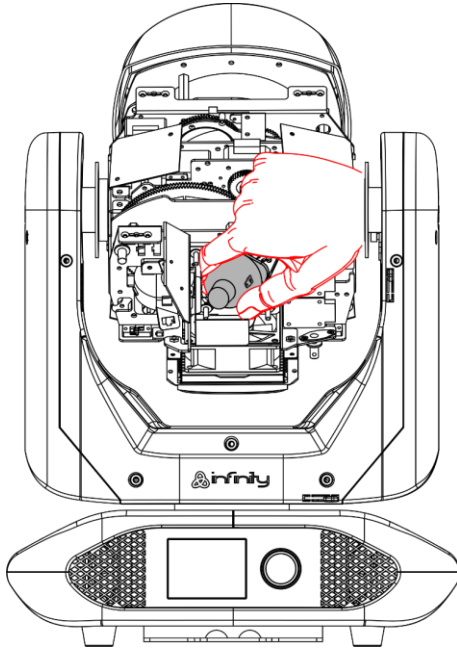
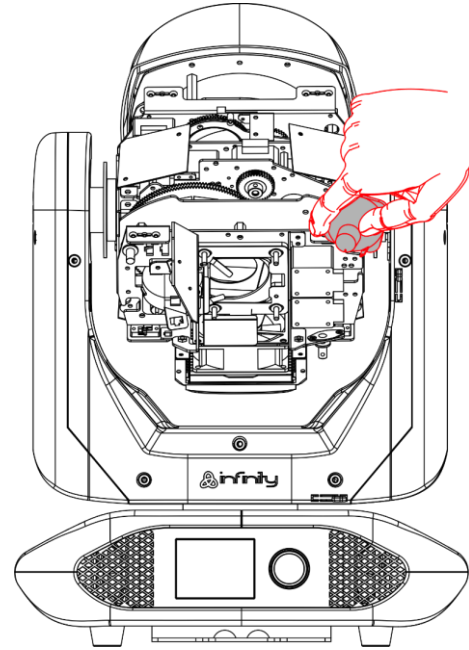

Fig. 05
Fig. 06
07) Roll the lamp carefully out of the fixture and remove it (Fig. 05 and Fig 06).